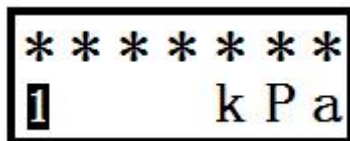

Fig.31
③ Enter the "Confirm" key once to access the variable viewing function. The first variable, "Current Pressure/Differential Pressure Value, its engineering units, and the variable number will then be displayed, as shown in Figure 31 (assuming the engineering unit is "kPa").
One press "right" key will display the first variable again, as shown in Figure 31. If you press the "left" key in sequence, the first, second, and third variables will be displayed in reverse order.